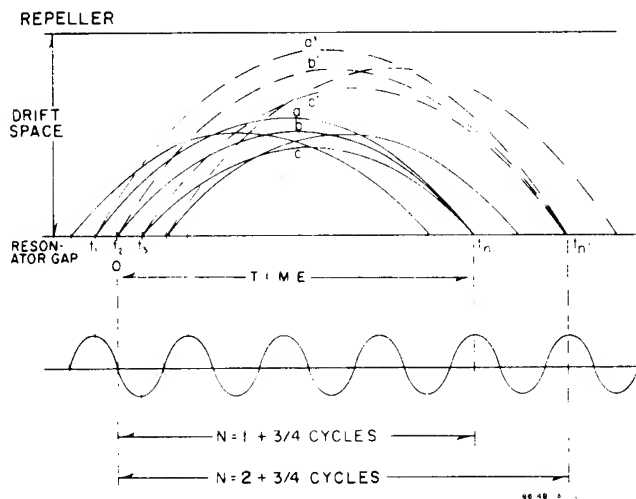

Figure 4-5. Bunching of Electrons
4-17. This bunching of electrons is illustrated in Figure 4-5, which shows the transit time relationship of electrons while in the drift space between the resonator grids and the repeller. Consider an electron (a) leaving the grids at time t_1 . The voltage of the RF signal on the grids is such that the electron receives energy and is accelerated into the drift space. It arrives back at the grids at time t_{n1} . An electron (b) leaving at time t_2 receives no acceleration because the RF signal is now at zero volts. Thus electron (b) does not travel as far into the drift space and arrives back at the grids at the same time as electron (a). Electron (c) leaving at time t_3 is decelerated since the RF signal has reversed voltage polarity since time t_1 .
4-19. The time that the electrons spend in the drift space is adjusted by changing the repeller voltage. As repeller voltage is increased in the negative direction, electrons a, b, and c spend less time in the drift space. As repeller voltage is decreased electrons a^1 , b^1 , and c^1 (Figure 4-5) travel farther into the drift space and take a longer time (t_{n1}) to return to the grids. At the low end of the instrument frequency band (up to about mid-frequency), the repeller voltage is adjusted so that the number of oscillations (N) that occur at the grid while the electrons are in the drift space is equal to $1\frac{3}{4}$ cycles. At the high end of the frequency band (above about mid-frequency), the repeller voltage is adjusted so that the number of oscillations equals $2\frac{3}{4}$ cycles. When the oscillator is operating with $1\frac{3}{4}$ cycles drift time it is known as operating in the $1\frac{3}{4}$ repeller mode.